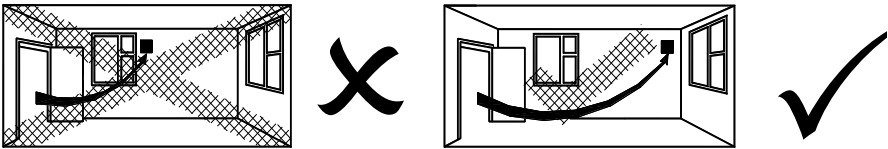

Fig 9. Wiring diagram without LS connection.
1. Select and follow the appropriate wiring diagram (*figs. 9 & 10*).